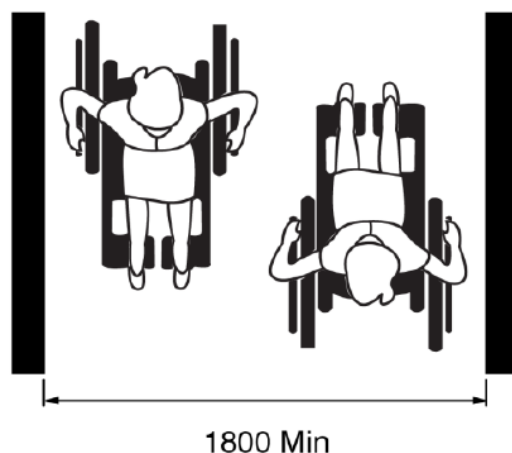

Figure 55: Primary Accessible Path
- **Primary accessible path:** 1830 mm (Figure 55)